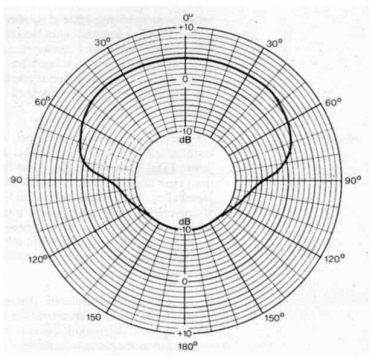

Fig 16 DI for an aperture
According to Danish guidelines (Miljøstyrelsens vejl. 5/1993, section 2.7.4) the radiation from an aperture in a baffle/facade or from a solid facade can be modeled using the DI's shown in Fig 16 and 17, respectively.
Below we outline a series of 'emergency exits' to deal with this challenge. When choosing between these 'exits' you must consider if the calculation result in front of the building or on the backside is most important/critical relative to noise limits. If you keep the building in the model, there is no way to fulfil the guidelines in the entire area. An aperture and the DI on Fig 16 are used as example, but similar arguments are valid for a solid facade. We assume the sound power L_{wA} of the source has been worked out as described in the guidelines. All approaches keep the building in the model.
1) Create a free (= not attached) source with emission L_{wA} (without DI) close in front of the aperture/facade. In this case the program will include a reflection from the building which will increase the level for most receivers in front of the building with up to 3 dB (if reflection loss of the building = 0 and source very close to the facade). In front of the aperture the guidelines expect an addition of 4 dB, see Fig 16, due to the radiation through the aperture. This means that this solution will underestimate the level in a wide area $[-60^\circ; +60^\circ]$ in front of the aperture by up to 1 dB, and in the rest of the area in front of the building the level will be overestimated by up to 5 dB. On the backside of the building the calculated level
3) Attach the source with assigned DI from Fig 16 to the building and set $D\Omega$ -Wall = 0 dB. This solution actually fulfils the guidelines in front of the building, but on the backside the levels will be subject to both the screening calculated by the program and the minus 10 dB from the DI leading to a massive underestimation of the level.